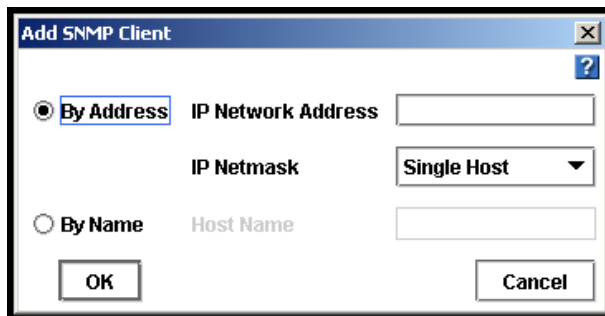

Figure 109. Adding an SNMP Client
1. Click Add to add an SNMP client. The Add SNMP Client window opens, shown in Figure 109. You can add SNMP Client either by specifying IP addresses or host names.